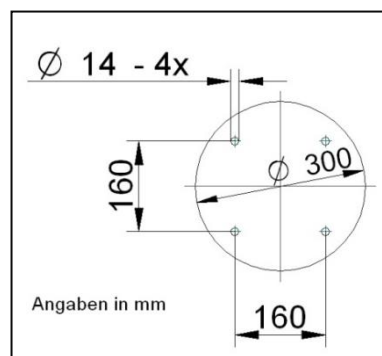

Fig. 5-2
3. Screw the foot plate of the machine firmly to the ground. The foot plate has four holes for this purpose (Fig. 5-2).